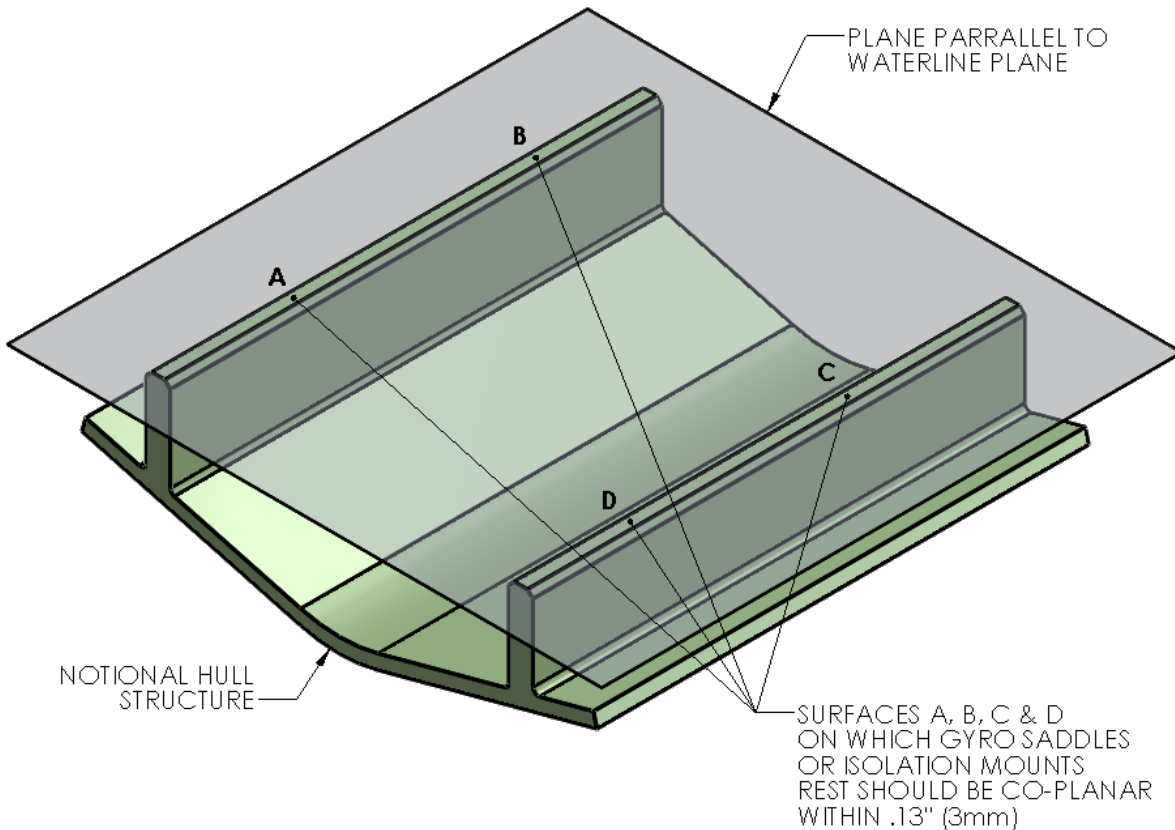

FIGURE 10 – COPLANAR PROPERTIES OF FOUNDATION
- 3) Raise fixture clear of foundation. Check all four mounting areas are co-planar to within .13" (3 mm) to each other, as well as parallel to the water line plane, as shown in Fig 10.